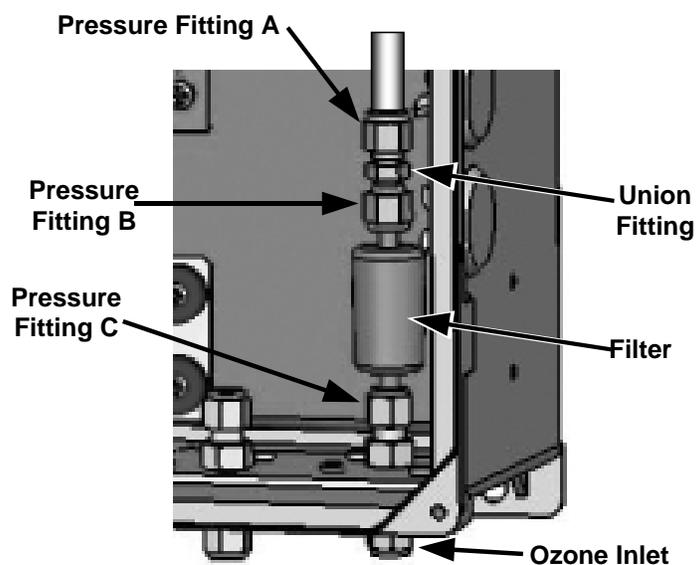

Figure 9-1 Changing the Particulate Filter
3. Unscrew the pressure fitting at the top of the filter (Fitting B in Figure 9-1) from the union fitting.
4. Unscrew the pressure fitting at the bottom of the filter (Fitting C in Figure 9-1) from the ozone Inlet.